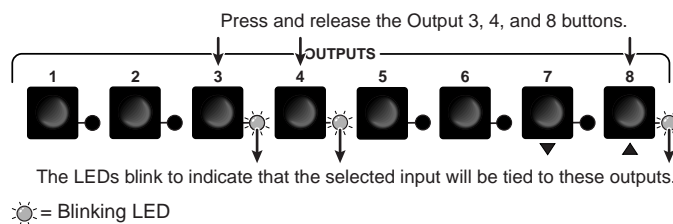

Figure 3-6 — Select the outputs
3. Press and release the Output 3, Output 4, and Output 8 buttons (figure 3-6).